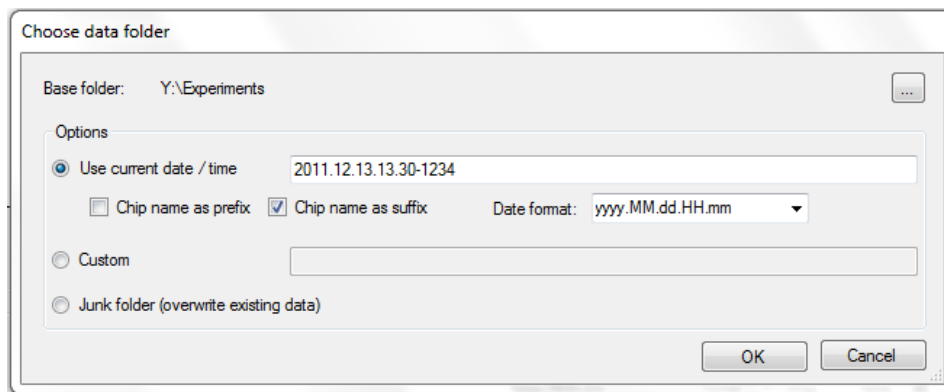

Figure 52. Choose data folder window.
8. In the “Choose data folder” dialog box (Figure 52) that appears, select a destination folder and file name options for your run data, and click [OK].